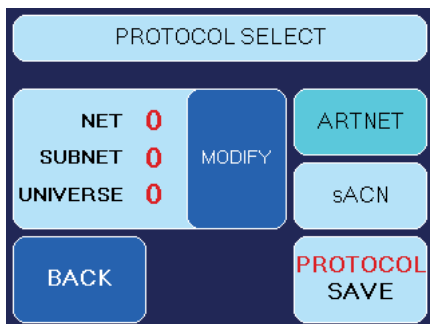
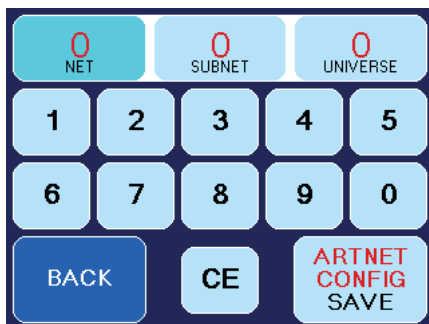

Fig. 12 Screen with activated ARTNET-Button
Fig. 13 Screen for configuring ARTNET
Press **ETH** at the main screen (Fig. 1, line 1) or select **SETTINGS** → **PROTOCOL**. Screen (Fig. 12/13) appears.
- Therefore press **MODIFY** (Fig. 12). The screen shown on the right (Fig. 13) appears.
- Select **NET**, **SUBNET** or **UNIVERSE** (Fig. 13, line 1), to change the respective value. Press **CE** and type in the new value.
- Pressing **ARTNET CONFIG SAVE** saves the values, **BACK** switches back to the previous screen (Fig. 12) without saving the value.
- Press **PROTOCOL SAVE** (Fig. 12) to save the ARTNET adjustments.